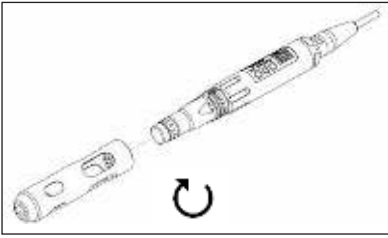

Figure 2
3. Reinstall the probe guard by sliding it carefully over the sensor and then threading it onto the cable/probe assembly with a clockwise rotation (Figure 2).